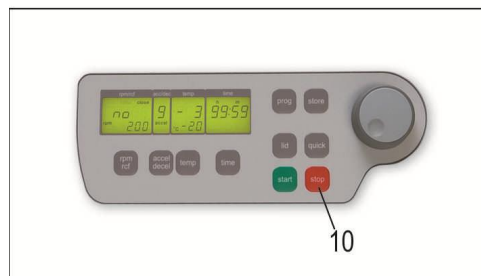

Figure 30
By the „stop“ key (10) (see figure 30) you can interrupt the run at any time. After pressing the key the centrifuge decelerates with the respective pre-selected intensity down to stand still.